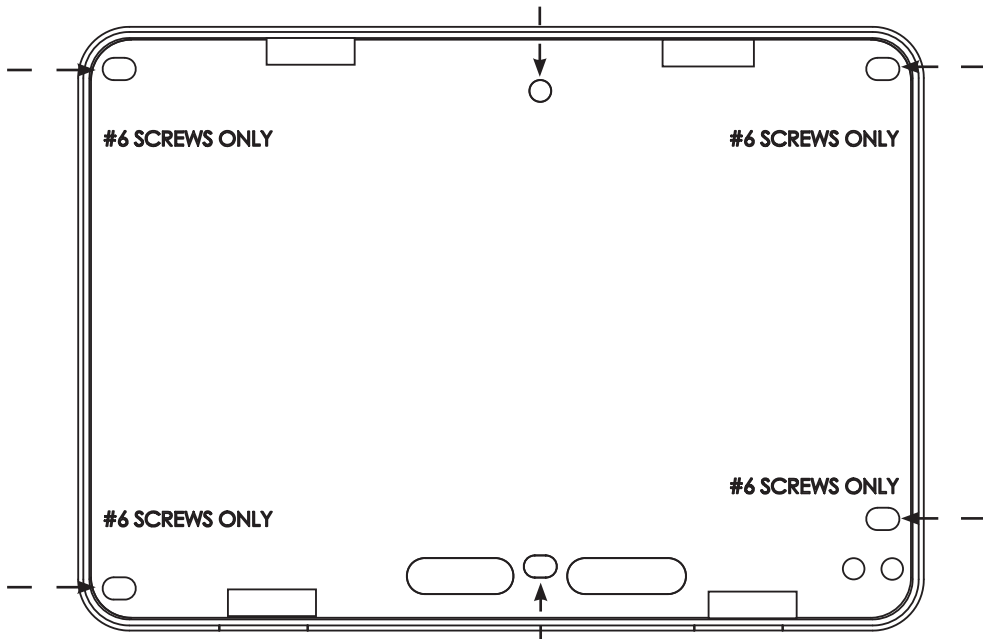

Figure 8: Mounting Hole Locations
1. Ensure all cables are routed through the keypad base cut outs before fully mounting the base to the wall. See Figure 8.